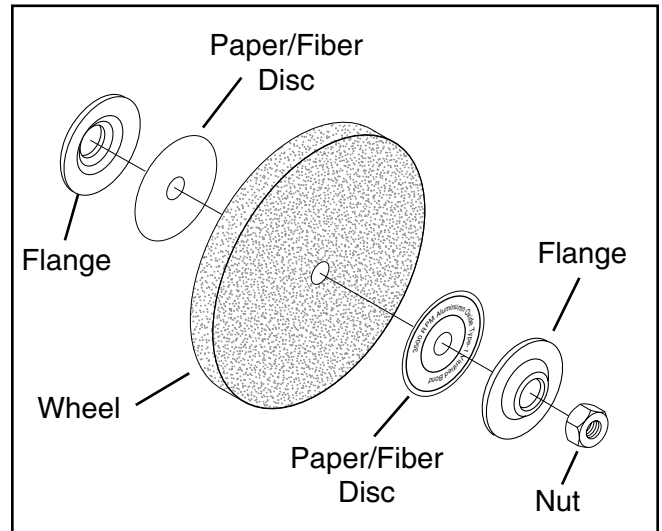

Figure 3. Wheel mounting order.
5. Mount the new wheel in the reverse order or as shown in **Figure 3**. Always make certain there is a paper or fiber disc between the wheel flanges and the wheel itself. Tighten the nut snugly but **DO NOT** over-tighten. Over-tightening can crack the wheel.